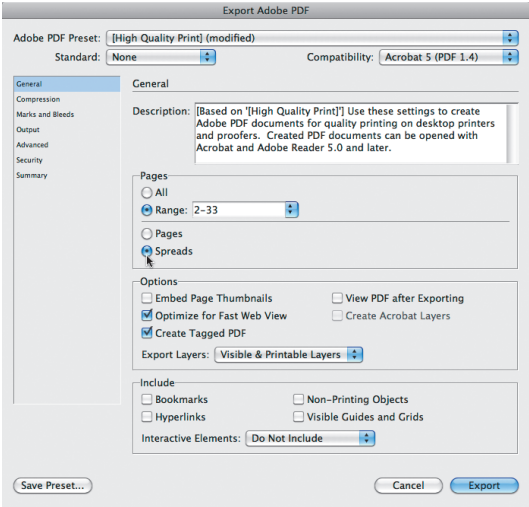
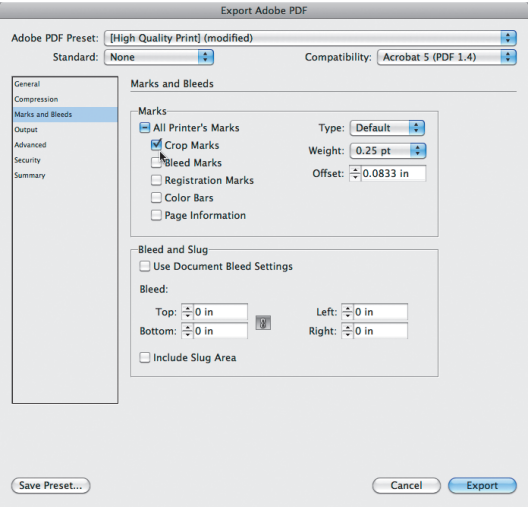

FIGURE 17.23 Be sure to export spreads when you save the PDF.
FIGURE 17.24 Add crop marks when saving the PDF to create a guide to use when trimming the printed paper.
14. Choose the File menu > Export and save a PDF (Print) of the 32-page booklet. Match my settings in the PDF dialog: in the General menu, set the Pages Range to pages 2–33. Also press the Spreads radio button (FIGURE 17.23). In the Marks and Bleeds menu, click the Crop Marks button (FIGURE 17.24). This will provide you with a guide when it's time to trim the printed pages.